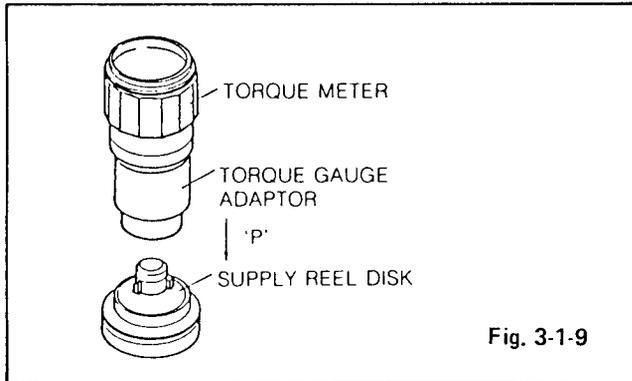

Fig. 3-1-9
- When stop mode, place the torque meter on each reel table and on the condition that any force isn't given in the direction of P, torque meter is to be turned as arrows in Fig. 3-1-9.